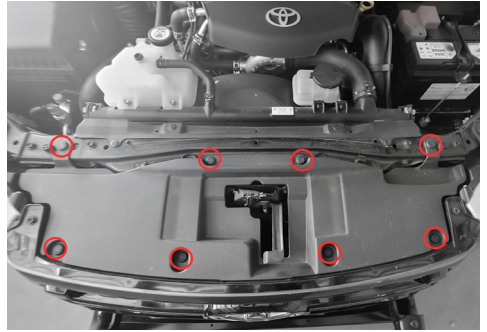

Fig. 3 Radiator Cover
1. Remove the upper radiator cover by releasing the 8 clips circled in red (Fig. 3). To release the clips, apply pressure to the center until it depresses and then lift the outer edge.
4. Reinstall the upper radiator cover and insert the 8 clips as highlighted in red (Fig. 3).